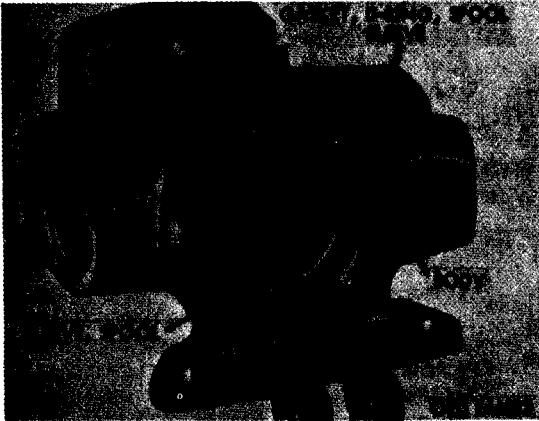
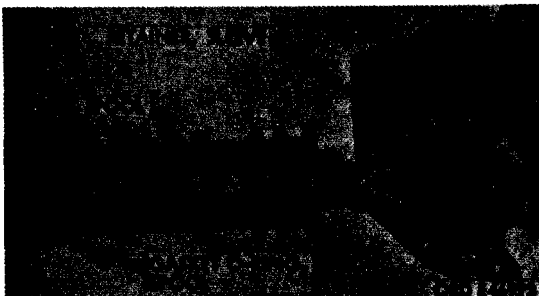

Figure 156. Hydraulic control valve with spool sleeve O-ring gasket installed
Figure 157. Assembly spool in spool sleeve
- (6) Push spool in the opposite direction to remove spool and spool O-ring gasket (fig. 157) from sleeve.
- (7) Remove sleeve retainer (fig. 157). Remove spool sleeve O-ring gasket in the body by pushing spool sleeve (fig. 156) from lever end until gasket is exposed. Use a pointed instrument to remove gasket, being careful not to damage it.
- (8) Remove remaining spool sleeve O-ring body by pushing on end opposite lever end.
- (4) Push spool sleeve (M) through body (K) only far enough to uncover spool sleeve O-ring gasket groove in body (fig. 156) at lever end and assemble spool sleeve O-ring gasket (J) in groove.
- (5) With a twisting motion, center spool sleeve (M) in body (K) and install sleeve retainer (N), lockwashers (S), and socket-head screws (R). Do not tighten screws.
- (6) Place spool O-ring gasket (H) in groove on end of spool (G) opposite eyebolt with bearing (C) end. Assemble spool (fig. 157) in spool sleeve (M) and body assembly from opposite lever end. Use twisting motion to start spool O-ring gasket into spool sleeve.